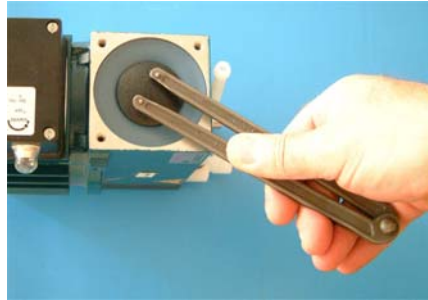

Fig 4
5.5 Using Pulley Spanner, carefully locate in Strain Washer and rotate clockwise (Fig 4).